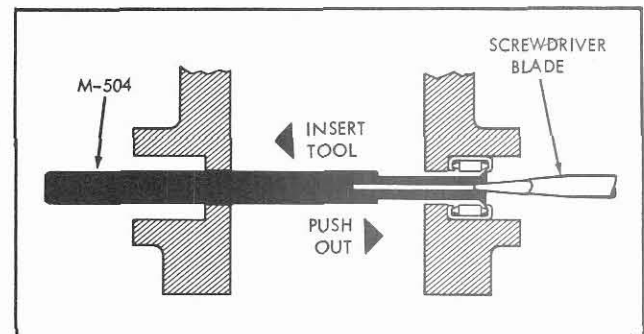

Figure 2-5. Needle-Bearing Removing Tool
(2) Insert the tool through the throttle shaft bore (headfirst) so the split end will "snap" into the bearing shell as shown in figure 2-5.
(3) The lips of the split tool (Part No. M-504) may be spread apart with a small screwdriver so the tool will seat firmly on the inner rolled edge of the needle bearing. (See figures 2-5 and 2-6.)